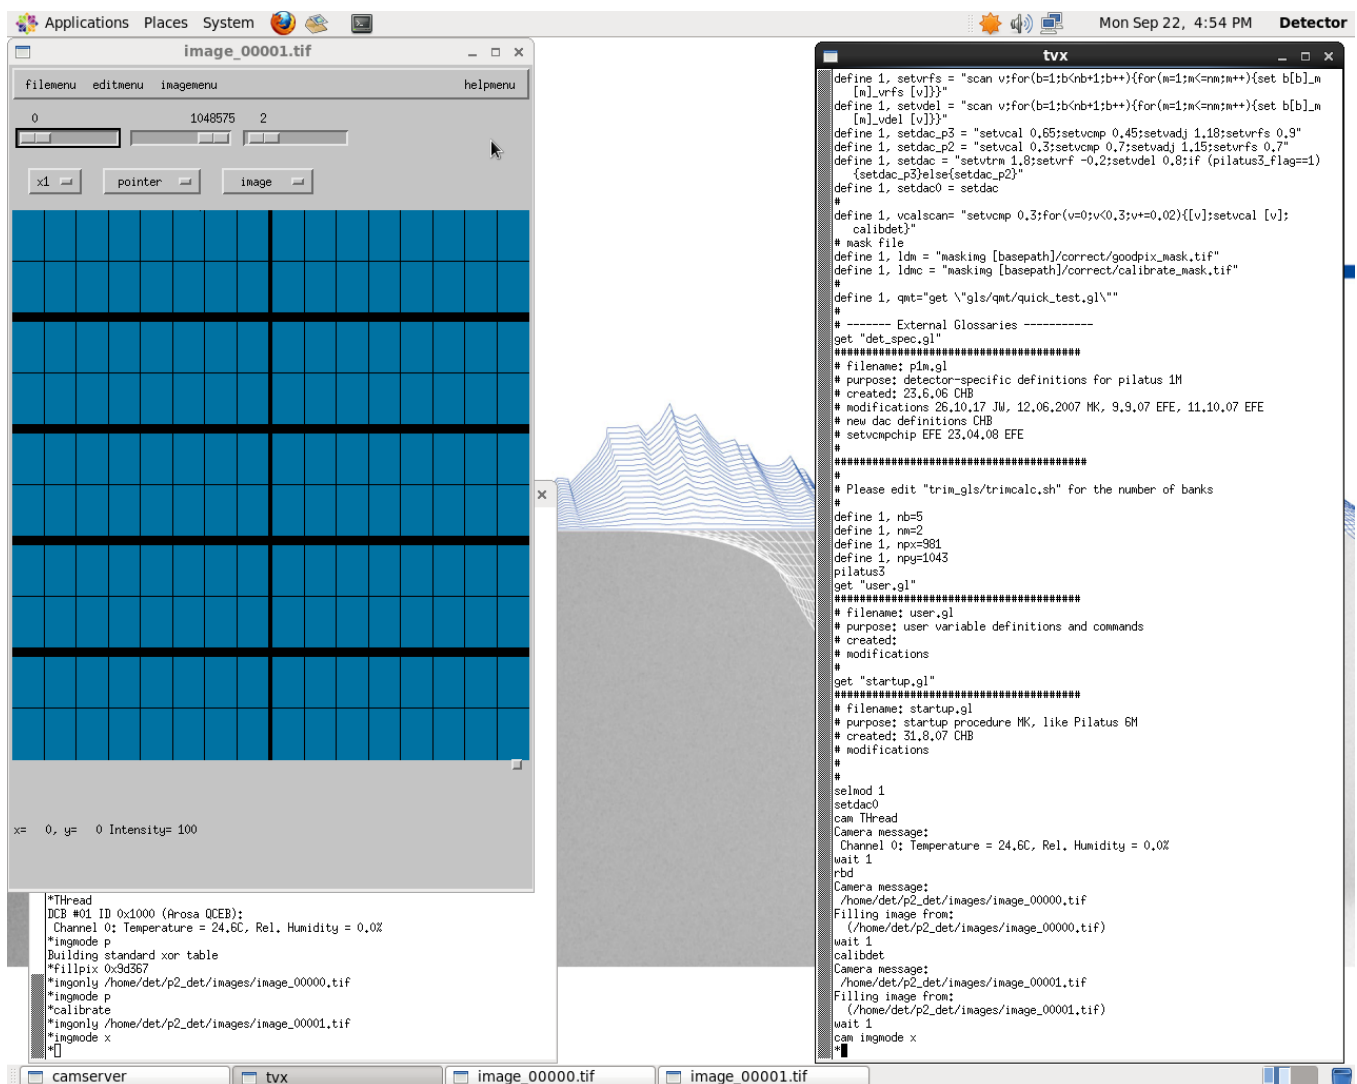

Figure 4.1: Startup Screen after Executing ./runtvx
- The command ./runtvx is a shell script, which starts the program Camserver (window on the left side of figure 4.1) and TVX (window on the right side of figure 4.1) as well as manages all log files.
- Once two images (green and blue) appear on the screen the detector is ready to operate. In figure 4.1 only one (blue) image is visible since it is above the other (green) one. Both terminals (TVX and Camserver) have their prompt, indicated by an asterisk symbol (*).